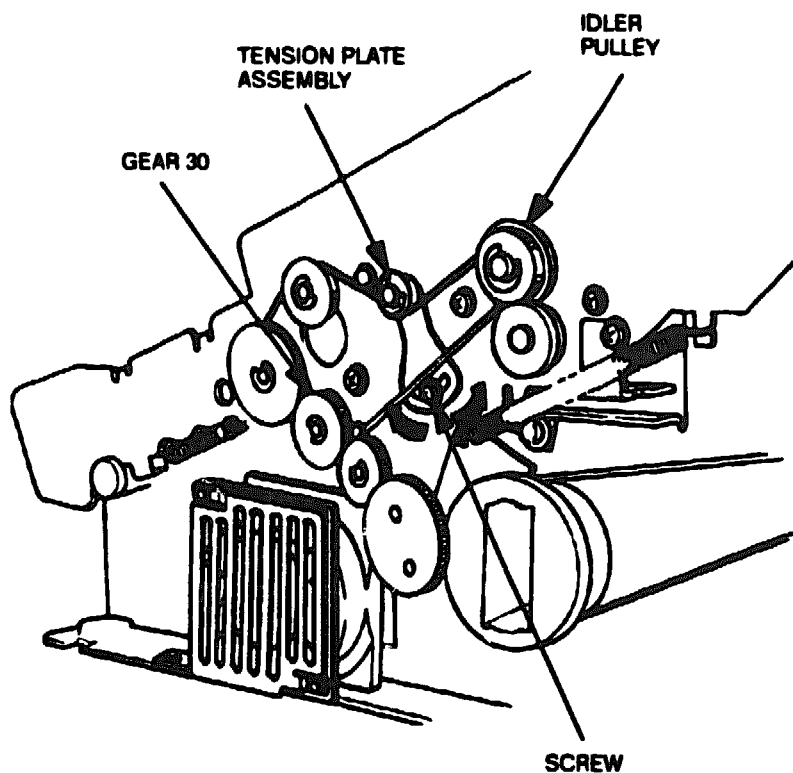

Figure 4-21 Tension Roller Assembly Adjustment
4. Loosen the tension plate assembly screw shown in Figure 4-21.
5. Slide the tension plate assembly in the direction necessary to achieve the correct belt tension (see Figure 4-21). Slide the plate assembly toward the rear of the printer to loosen the belt and increase the flexure value. Slide the assembly toward the front of the printer (toward the control panel) to tighten the belt and decrease the flexure value.